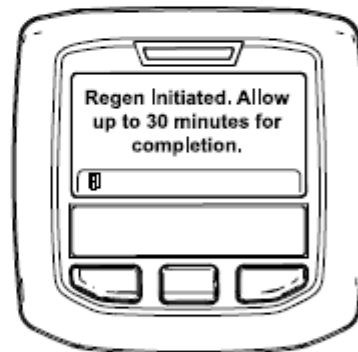

Figure 11
- If the regeneration is allowed, the "Regen Initiated. Allow up to 30 minutes for completion" message displays in the InfoCenter, wait for the machine to complete the parked regeneration process (Figure 11).